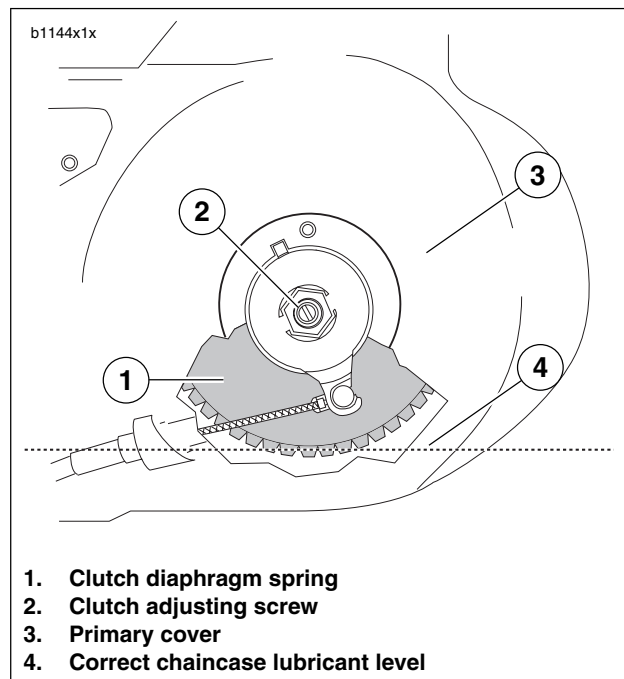

Figure 1-22. Fluid Level
6. See Figure 1-22. Add SPORT-TRANS FLUID (Part No. 99896-88 quart size; Part No. 99895-88 gallon size) as required until fluid level (3) is even with bottom of clutch diaphragm spring (2).